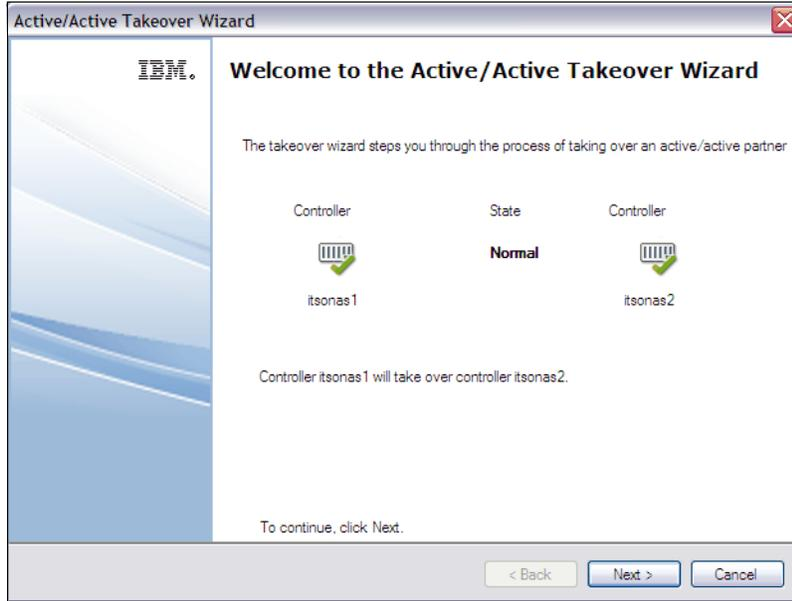

Figure 7-7 System Manager initiating takeover: Step 1
2. Figure 7-7 shows the Active/Active takeover wizard step 1. Click **Next** to continue.